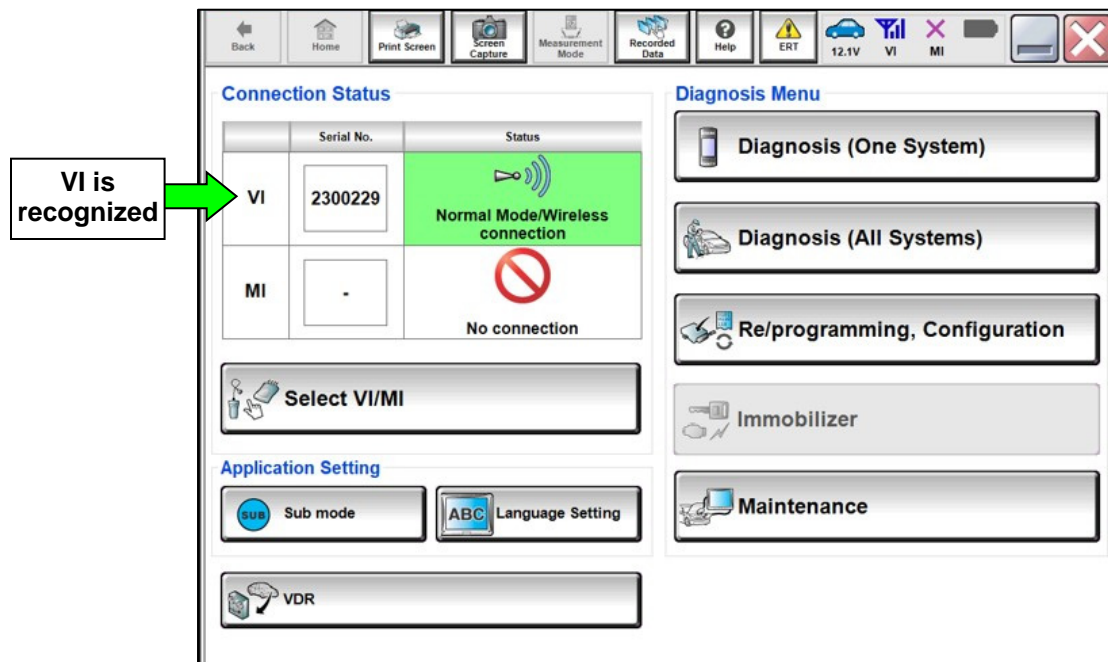

Figure 1
5. Wait for the VI to be recognized (Figure 1).